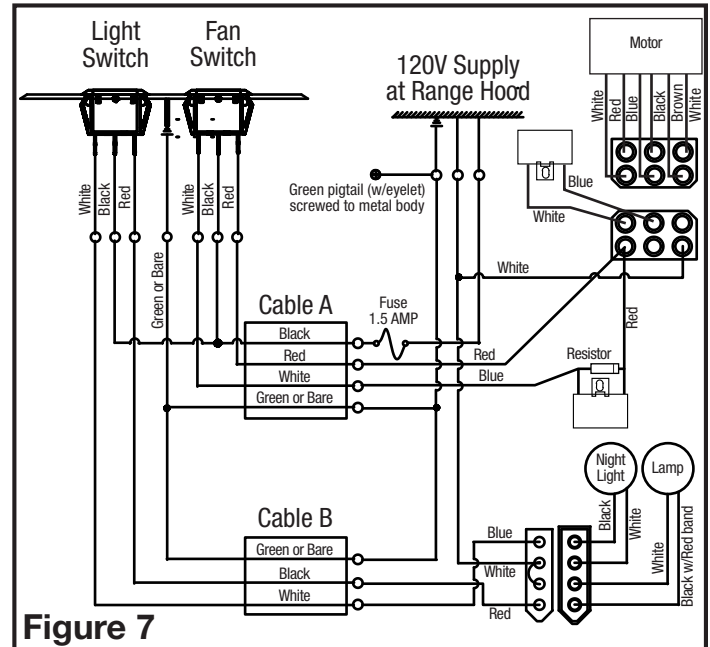

Figure 7
- Connections at the range hood (Figure 7):**
- Connections at the switch box (Figure 7):**